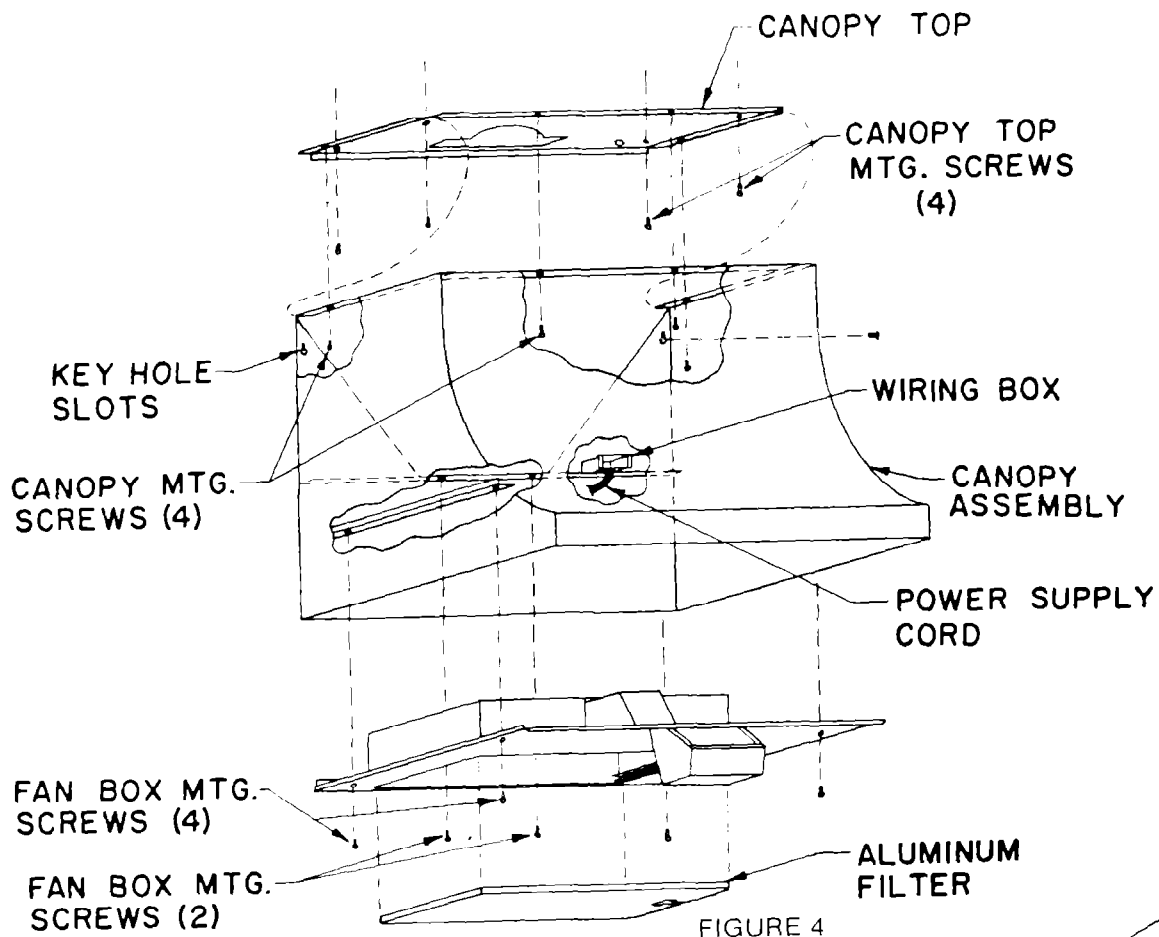

FIGURE 4
6. With necessary duct work in place (see Fig. 4), lift fan box assembly into position and secure with 6 screws.
2. Lift canopy assembly and mark location for 2 mounting holes at top of key hole slots. (Figure 4).
7. With necessary duct in place (see Figure 4) lift fan box assembly into position and secure with six screws.